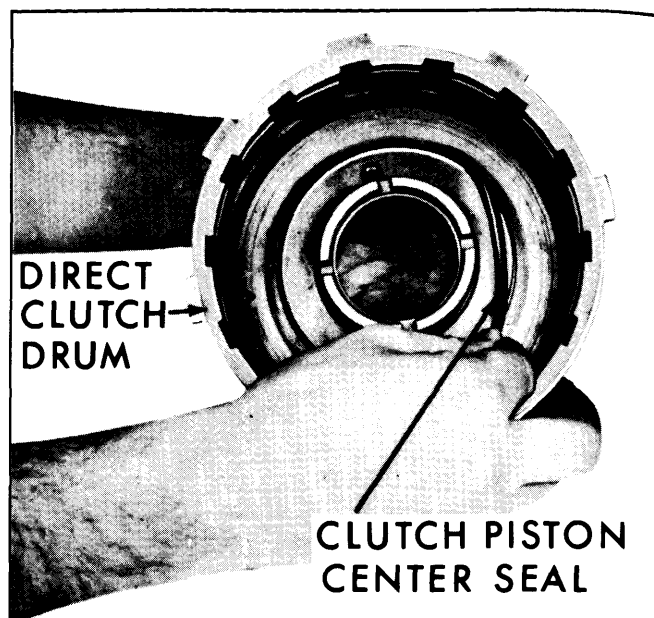

Fig. 7-74—Removing Direct Clutch Piston Center Seal on Drum
6. Remove direct clutch piston center seal on drum. (Fig. 7-74)